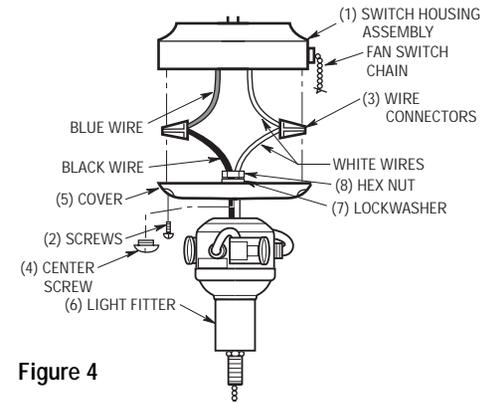

Figure 4
2. Remove the cover from fan switch housing(1) by removing the two outer screws(2). (See Figure 4).
3. Remove the center screw(4) in the switch housing cover(5). Insert the black and white wires from the light kit fitter(6) thru the hole and thread the switch housing cover tightly onto the light kit fitter.
4. Insert the black and white wires through the lockwasher(7) and hex nut(8) supplied. Firmly tighten the hex nut to secure the light kit fitter to the switch cup.
5. Carefully pull down the white and blue wires from the switch housing(1) and remove the wire connectors.
6. Connect the white wire from the ceiling fan to the white wire of the light kit fitter(6). Connect the blue wire from the ceiling fan to the black wire of the light kit fitter. Use listed wire connectors(3) (previously removed in step 3) to make connections. (Figures 4 and 5.)
8. Attach the cover/light fitter(5)(6) to the switch assembly housing(1) using the two screws(2) that were removed in Step 2) (Figure 4.)